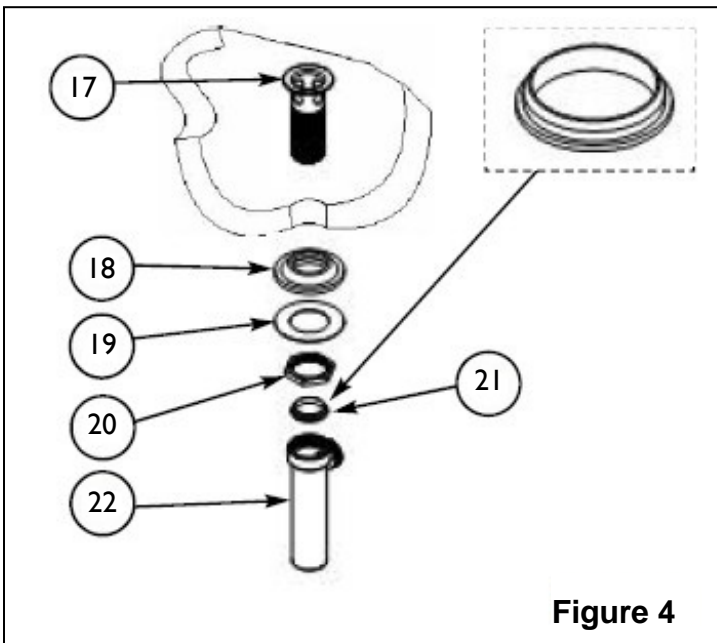

Figure 4
6. Remove drain PLUG (23) from FLANGE (17). As shown in **Figure 4**, place FLANGE (17) through sink drain opening. Use plumbing putty to seal between the FLANGE (17) and top side of sink. From bottom side of sink, place cone shaped rubber WASHER (18) onto FLANGE (17) and slide up against sink bottom. Note: Cone portion of washer to face upward. Next slide on flat WASHER (19) and loosely secure with flange NUT (20). Place white WASHER (21) into drain BODY (22) and tighten to FLANGE (17). Position the side opening of drain BODY (22) towards the back side of the sink, tighten the flange NUT (20).